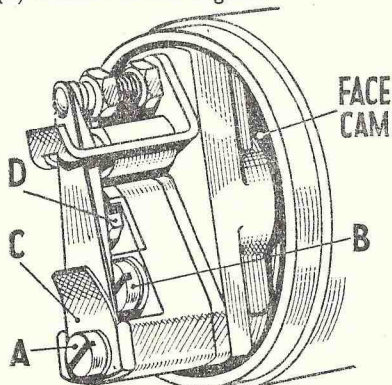

Fig. 27. Magneto Contact Breaker (Face Cam).
The operating face cam of the magneto is lubricated from a wick retained by the screw (B) Fig. 27. Every 3,000-4,000 miles remove the screw (A) and lift off the backing spring (C) together with the contact breaker arm. The screw (B) with the wick attached can then be withdrawn for the addition of a few drops of light machine oil. It is also advisable to undo the screw (D), after bending back the lockwasher, and pull the contact breaker body from the armature shaft. Pull the small push rod which operates the contact breaker arm from its housing and lubricate it lightly with thin machine oil. Replace the tappet in its original position and make sure that the contact breaker body is correctly located on the armature shaft.